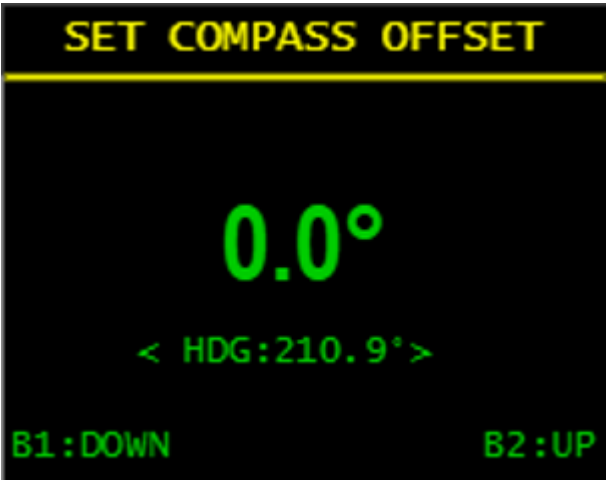

Fig 56 - Set compass offset
- B1** short press to access the set compass offset (**Fig 56 - on p. 29**);